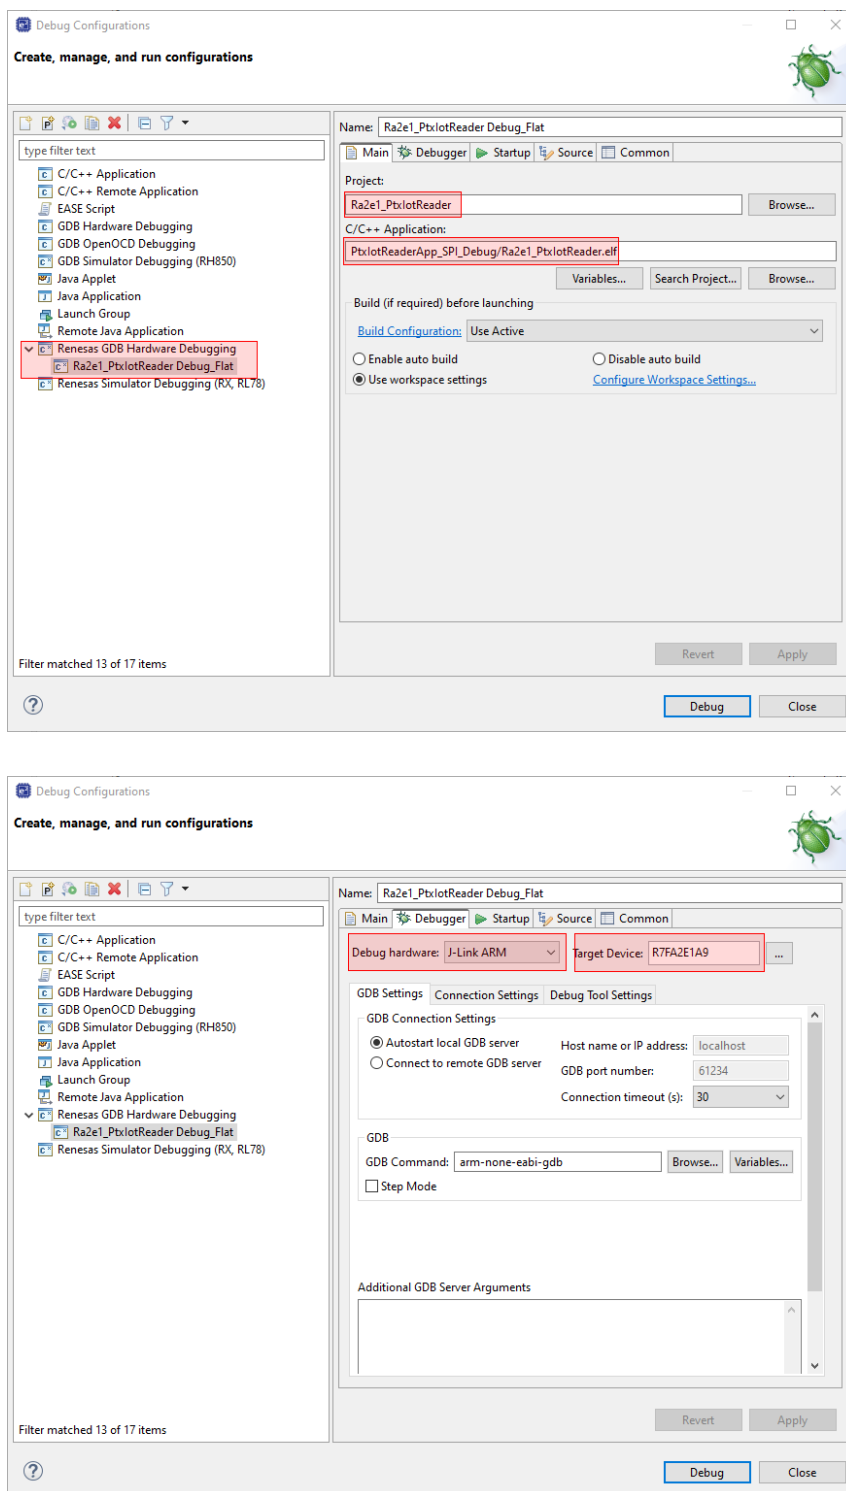

Figure 8. Debug Configuration Windows
3. Flash the application. After plugging in the debug micro USB cable, go to **Run** → **Debug Configurations**, double-click on *Renesas GDB Hardware Debugging*, and setup the debugger (see Figure 8).